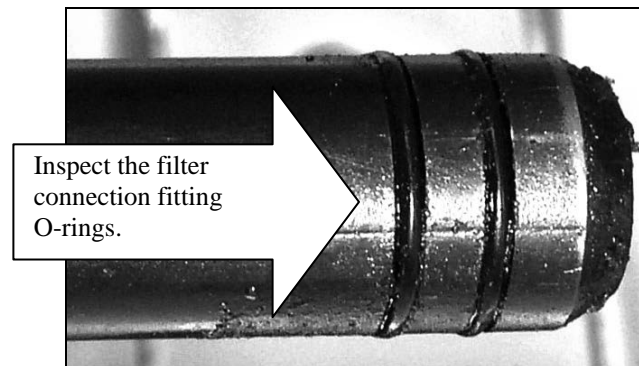

Figure 2
2. Inspect the filter pan connection fitting to ensure that both O-rings are in good condition. (See Figure 2)